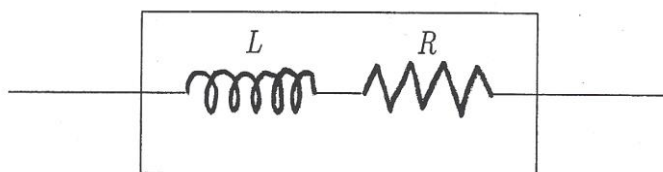

Figure 3: Schematic of inductor in series with resistor.
1. Your inductor should be considered as an ideal inductor (with self inductance L) in series with an internal resistor R , as diagramed in **Figure 3**. This quantity is sometimes called the “parasitic” resistance of an inductor. Use an ohmmeter to determine R for your inductor. (Note that its nonzero value of L may require you to wait a few moments before its displayed value for R equilibrates to a single value.)